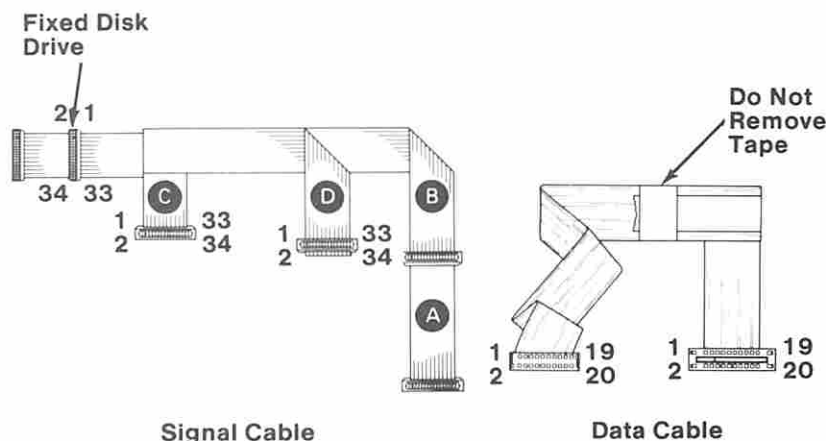

Figure 2. Data and Signal cables
- Check the fixed disk drive data and signal cables for continuity. The line numbers at one end of the cable match the line numbers at the other end, except for those listed in Figure 2 on page 1700-4